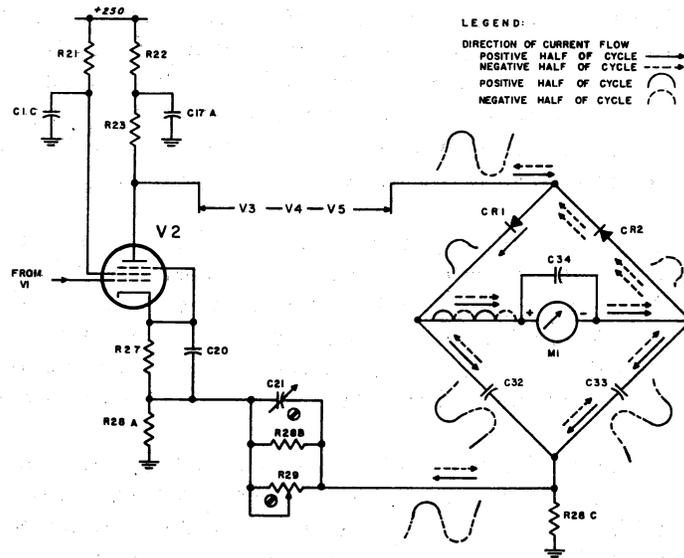

Fig. 10. Model 400D Direction of Current Flow Through Rectifier - Meter Bridge Partial Schematic
The amplifier-rectifier-meter circuit is so designed that (1) pulsating direct current is provided for the meter circuit and (2) an alternating current which is of the same frequency as the AC input to the rectifier is provided for the feedback loop. A partial schematic of the circuit is shown in Fig. 10. A detailed explanation of the amplifier-rectifier-meter circuit is not within the scope of this instruction book, but in effect the functioning of the circuit may be described as follows.